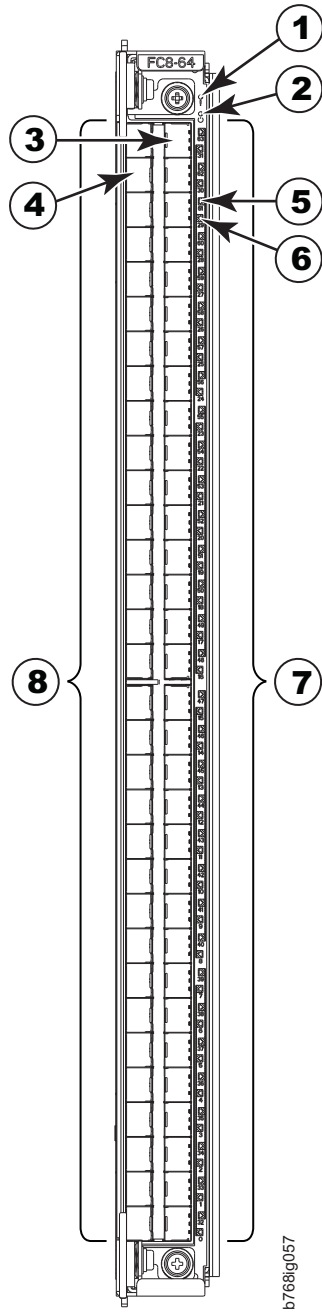

Figure 56. FC8-64 port blade
- Figure 56 on page 157 shows an FC8-64 port blade